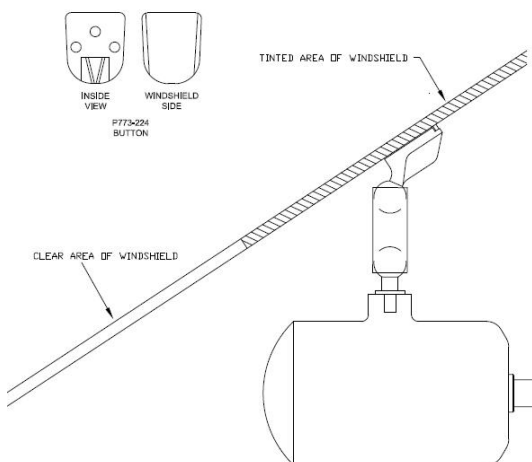

Figure 2.3d
- Glue the button in a location so that the antenna will be completely below the tinted area of the windshield as shown in Figure 2.3d.